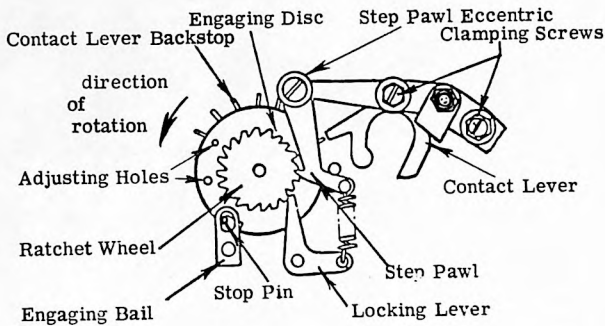

Figure 7
TO ADJUST: Rotate the answer-back drum until the "HERE IS" key lever rises into the notch of the ratchet disc. Loosen the rear lock nut (counterclockwise thread) of the drum, with a tommy inserted in the adjusting holes in the ratchet disc, rotate the disc counterclockwise to keep it stationary. Rotate the answer back drum ratchet wheel until the ratchet locking lever engages a tooth on the ratchet wheel and rotate the drum. See Figure 7 for location of parts.
2.4 Answer Back Drum Step Pawl Eccentric Screw (Figure 7)
2.9 Answer Back Drum Step Pawl (Figure 7)